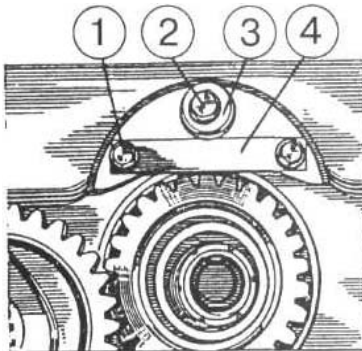

Figure 4.40
- a) unscrew bolt 2 (Figure 4.40) and remove thrust washer 3;